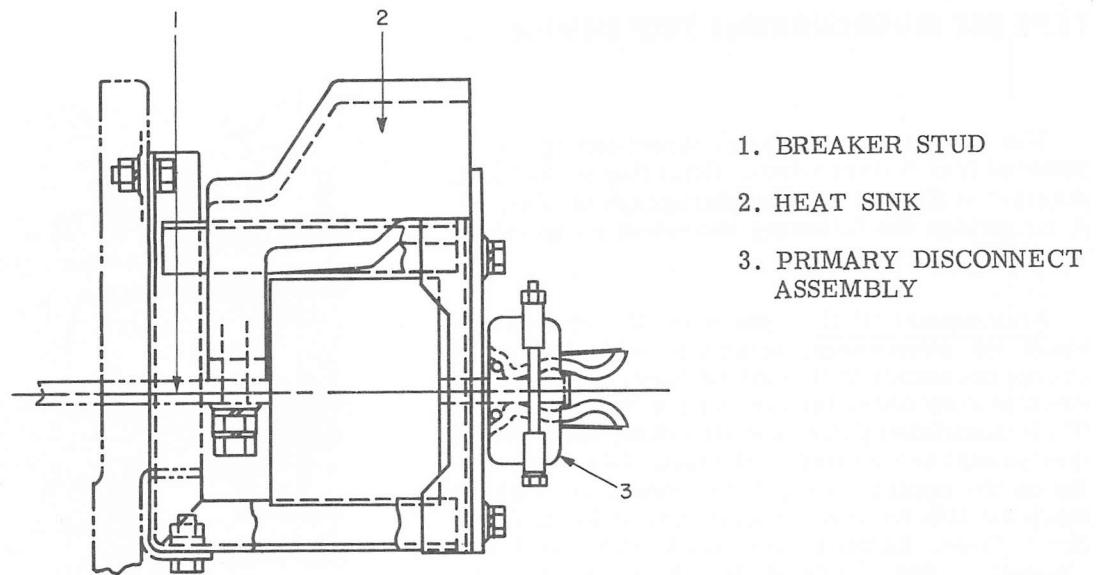
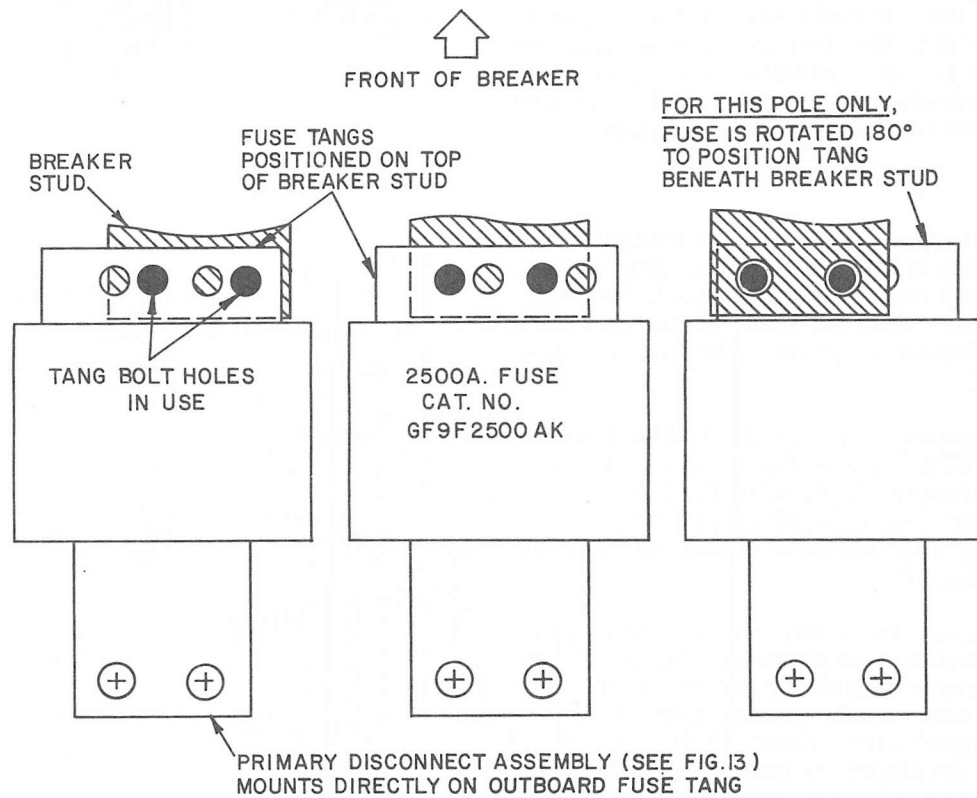

Fig. 13. Mounting for special 2500A fuse on AKRU-50 breaker
Fig. 14. Plan view of AKRU-50 breaker showing 2500A fuse tang positions
1. Remove the primary disconnect assembly from the fuse tang, accomplished by first loosening the two keys (2) via their holding screw and pulling them upward and out. After the keys are removed, pull the disconnect assembly off the end of the fuse tang.
2. Remove the upper barrier (4).
4. Remove the heat sink (3).
**CAUTION:** WHEN REPLACING THE FUSE IN THE LEFT POLE (FRONT VIEW) OF THE BREAKER, NOTE PARTICULARLY THAT THIS FUSE IS MOUNTED DIFFERENTLY THAN THE OTHER TWO FUSES. AS SHOWN IN FIG. 14, FOR THIS PHASE THE FUSE IS ROTATED 180 DEGREES ABOUT ITS AXIS SO THAT ITS INBOARD TANG IS POSITIONED BENEATH THE BREAKER STUD. THIS TANG IS OFFSET WITH RESPECT TO THE OPPOSITE END (SEE FIG. 13, SO THAT ROTATING THE FUSE DOES NOT ALTER THE POSITION OF THE PRIMARY DISCONNECT.